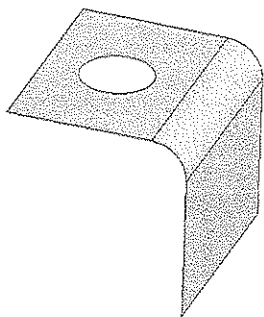
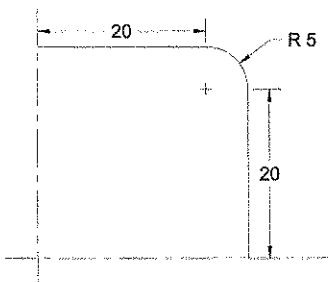
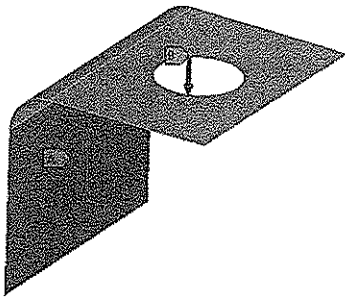
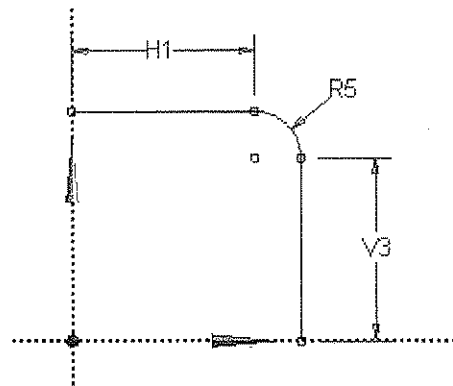

Figure 8-39 Model for Tutorial 3
Figure 8-40 Front view of the model
Figure 8-42 Boundary and loading conditions for the model
Figure 8-43 Fully constrained sketch on the **XY** Plane
In this tutorial, you will create the surface model shown in Figure 8-39. The dimensions and views of the model are shown in Figures 8-40 and 8-41. After creating the model, you will generate a mesh for the surface model. The boundary and loading conditions are shown in Figure 8-42. Also, to understand the importance of geometry optimization, you will run a static structural analysis, optimize the model, and then evaluate the results.
4. Create the sketch on the **XY** plane, as shown in Figure 8-43. For dimensions, refer to Figure 8-40.
- 5. Create a circle on the top face of the plane. For dimensions, refer to Figure 8-42.